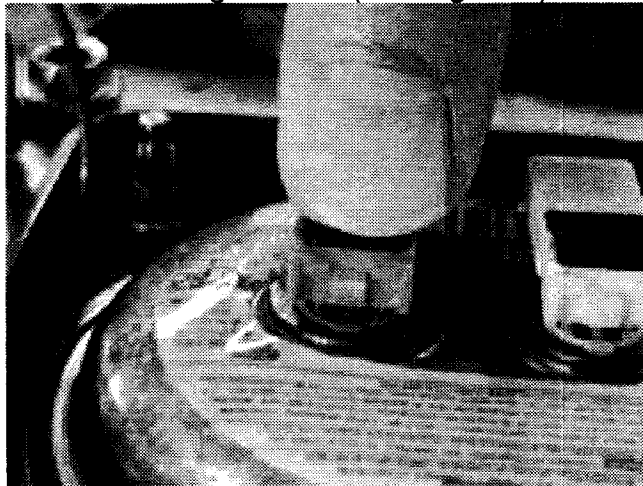

Figure 4
- Then, pull and wiggle the connectors to ensure they are fully connected and locked to the driver air bag module (see Figure 4).